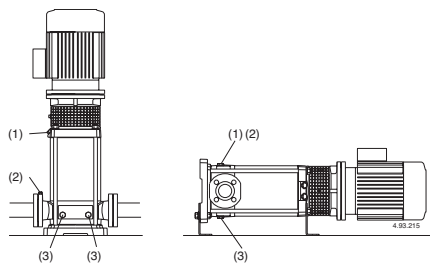
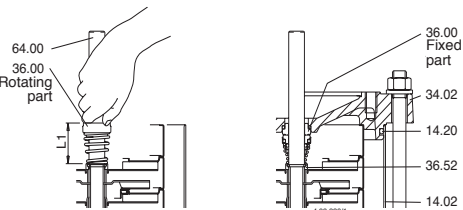

Fig.4 (1) Filling and air vent
Fig.5 Inserting the mechanical seal
When the pump is located above the water level (suction lift operation, **fig. 3A**) or with a positive suction head which is too low (less than 1 m) to open the non-return valve, fill the suction pipe and the pump through the priming hole (1) (**fig. 4**).
(2) Suction side air vent
(3) Draining
When the liquid level on the suction side is above the pump (inflow under positive suction head, **fig. 3B**), fill the pump by slowly and completely opening the inflow gate valve while keeping the delivery gate valve and air vent holes (1), (2) (**fig.4**) open to release the air.
Close the air vent holes (1), (2) (**fig.4**), for MXV-B, MXV(L) 25-32-40 e MXV(L)4 25-32-40 Tighten the needle screw (14.17) in the drainage plug (14.12) (**fig. 4b**) and close the air vent hole (14.04).
If a priming loss occurs (interruption of delivery flow, despite opened gate valves) or if a pressure oscillation is indicated on the pressure gauge, repeat the venting operation on the suction side (2), make sure all the suction pipe couplings are perfectly sealed and tighten the air vent plug (2) and the draining plugs (3) on the suction side (**fig.4**).
Or, after draining, perform the washing operation, inserting clean water (at least 40 litres) into the filling hole (1) on the delivery side and allowing it to come out of the draining hole (3) on the suction side (**fig.4**).
Before dismantling, close the gate valves in the suction and delivery pipes and empty the pump casing (fig. 4). For dismantling and re-assembly refer to the section drawing (section 14.) and figures 5, 6. Dismantling and inspection of all internal parts can be carried out without removing the pump casing (14.00) from the pipeline.
Push the rotating part as far as the shoulder ring (36.52) on the shaft (64.00), without compressing the spring. Check the length before and after insertion and raise the rotating ring as far as the initial length (L1 in fig.5).